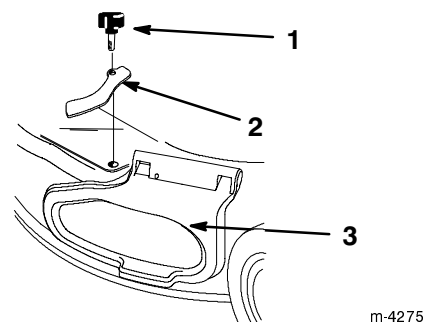

Figure 44
3. Remove the knob and side cover clamp (Fig. 44).
3. Remove the knob and side cover clamp, then replace the knob in the hole and save the clamp for future use (Fig. 44).
4. Lift up on the side opening cover (Fig. 44).